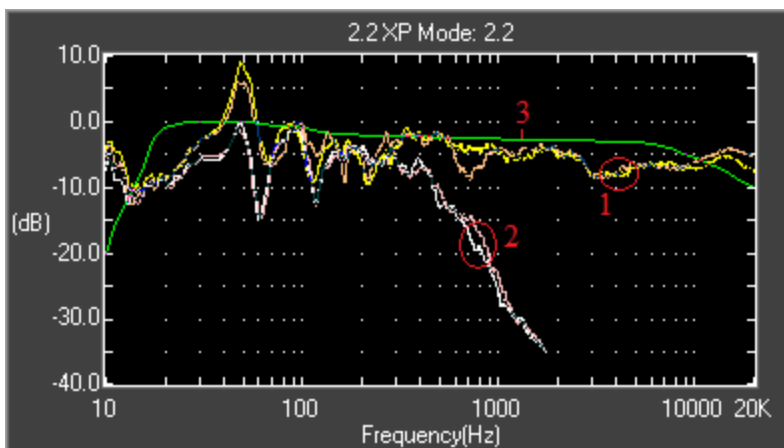

Figure 1. 2.2 XP measurements of all four channels as displayed by Tact-V1.0
What is room response? Room response represents sound pressure level at the listening position measured at all frequencies over entire audio band (20Hz-20,000Hz). To obtain room response, RCS such as 2.2 XP performs room measurement at the listening position for all used channels. Usually you would place the microphone at the listening position, enter 2.2 XP measurement screen and perform room response measurement. A sample of 2.2 XP measurement is shown in Fig. 1.
What is target curve? In Fig. 1 graph (1) represents left and right channel room response and graph (2) represents left and right subwoofer channel room response. These are typical room measurements with some obvious room abnormalities such as huge peaks and deeps at low frequencies and channel mismatch at higher frequencies. Obviously this is something that nobody likes to listen to. Target curve represents desired room response, room response without peaks and deeps at low frequencies and
without channel mismatch at higher frequencies. Target curve is represented in Fig.1 with curve number (3). In simple terms you would like your room to measure like the target curve (3) and not like (1) and (2).